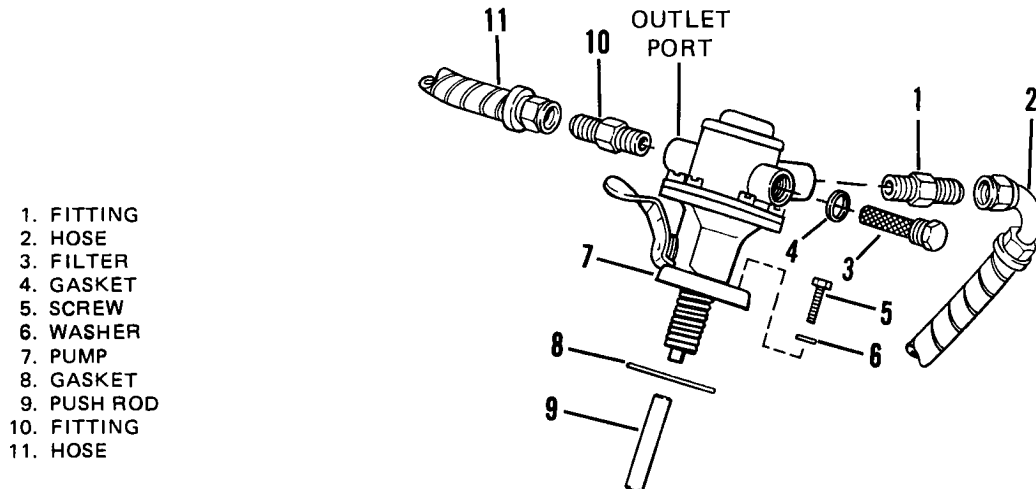
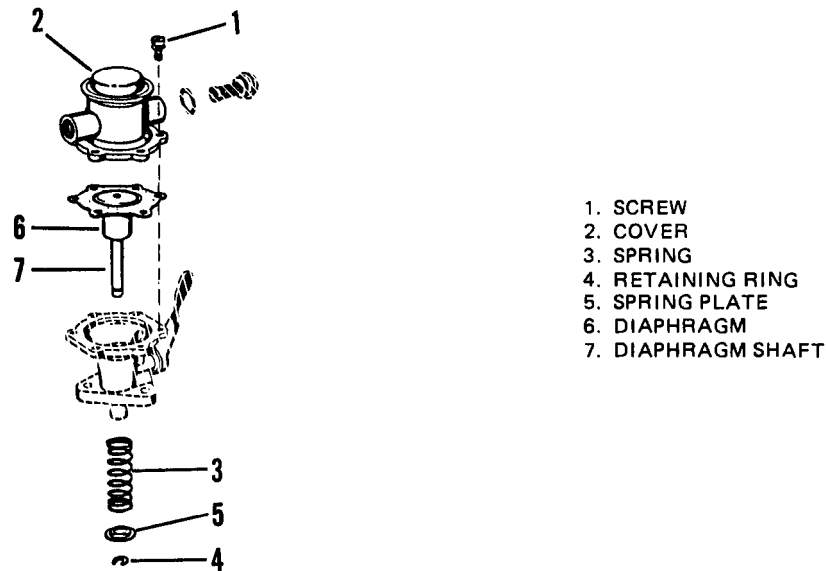

Figure 4-21. Fuel Transfer Pump.
Figure 4-22. Fuel Transfer Pump, Exploded View.
4-34. FUEL TRANSFER PUMP. (See Figures 4-21 and 4-22)
- (1) Connect a fuel pressure gage to outlet port of transfer fuel pump with a tee fitting.
- (2) Start and run generator set.
- (3) Fuel pressure gage should indicate a pressure of 4 to 7 psi (27 to 48 kPa) at engine idle.
b. Service. Remove and clean the transfer pump filter after every 500 hours of operation (See Figure 4-21).
- (1) Remove filter element (3) and gasket (4).
- (2) Clean filter element (3) and reinstall with gasket (4).
- (1) Drain the fuel filter (see paragraph 4-36).
- (2) Remove hose (11, Figure 4-21).
- (3) Disconnect hose (2) from the pump.
- (4) Remove screws (5) and washers (6).
- (5) Remove fuel cutoff solenoid brackets (refer to paragraph 4-37).
- (6) Remove fuel transfer pump (7) and gasket (8).
- (7) If necessary, remove fittings (1 and 10).
- (8) Remove pump push rod (9) from crankcase bore. Use a magnetic retriever to raise rod out of bore.
- (1) Notch pump cover and body with a file for location purposes when pump is reassembled.
- (2) Remove filter (3, Figure 4-21) and gasket (4).
Do not pry cover (2, Figure 4-22) off of pump. Damage to the diaphragm may result.
- (3) Remove six cover screws (1, Figure 4-22). Tap pump cover (2) with a soft plastic hammer to separate the two parts.
- (4) Compress push rod spring (3) against pump body and remove retaining ring (4), spring plate (5) and spring (3).
- (5) Remove diaphragm (6) from pump body.
- (1) Lubricate diaphragm shaft (7, Figure 4-22) with clean diesel fuel and insert carefully through oil seal into pump body.
- (2) Place spring (3) and spring plate (5) onto diaphragm shaft (7). Compress spring and secure with retaining ring (4).
- (3) Push diaphragm shaft upward against spring force. Assemble cover (2) to body with notch marks aligned. Install screws (1) but do not tighten.
- (4) Release tension of diaphragm shaft and uniformly tighten screws (1) to 17 to 26 in lbs (2 to 3 N.m).
- (5) Install fuel filter (3, Figure 4-21) and gasket (4).
- (1) Lubricate pump push rod (9, Figure 4-21) with clean engine oil and push in bore until camshaft is contacted.
- (2) Install fittings (1 and 10) on pump.
- (3) Place gasket (8) on crankcase.
- (4) Place pump (7) on crankcase.